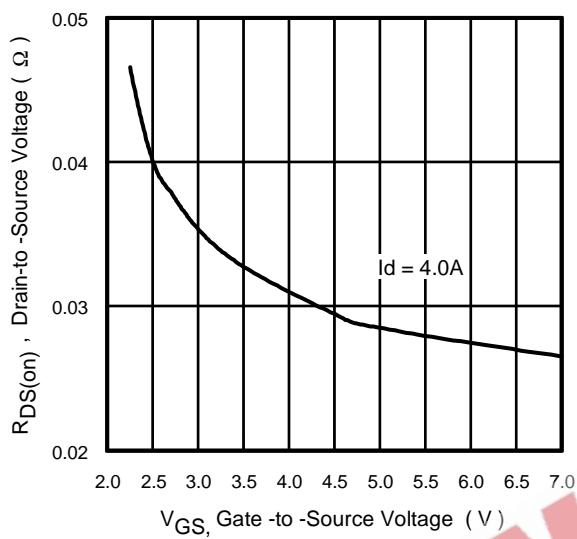

Fig 11. On-Resistance Vs. Gate Voltage
① Repetitive rating; pulse width limited by max. junction temperature. (See fig. 11)
② Pulse width ≤ 300μs; duty cycle ≤ 2%.
③ Surface mounted on FR-4 board, t ≤ 5sec.